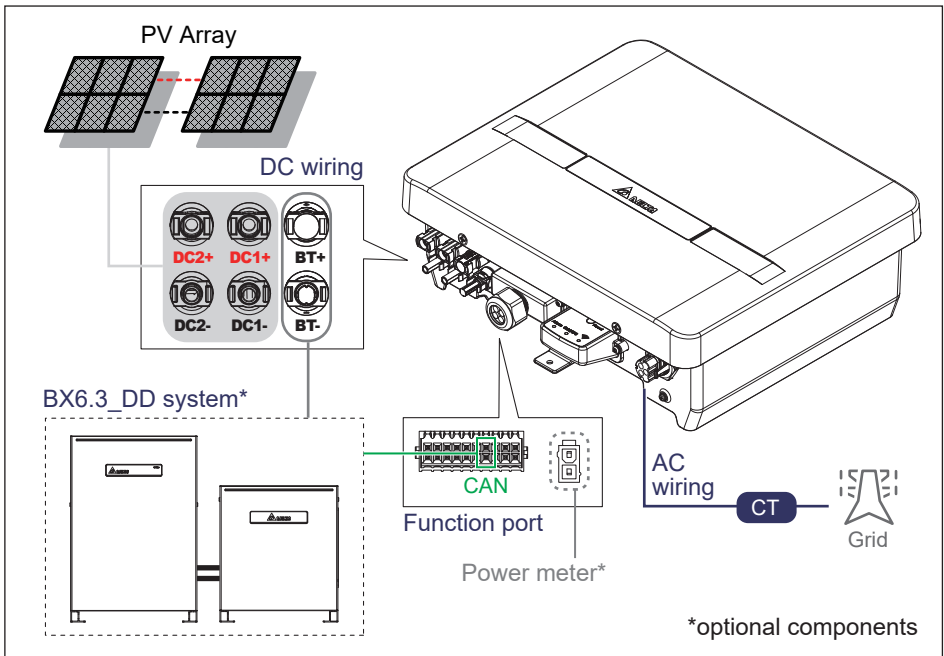

Figure 4-4 : Cable connections
4. Please refer to **Figure 4-4** for connections. Inverter can accept DC inputs in parallel.